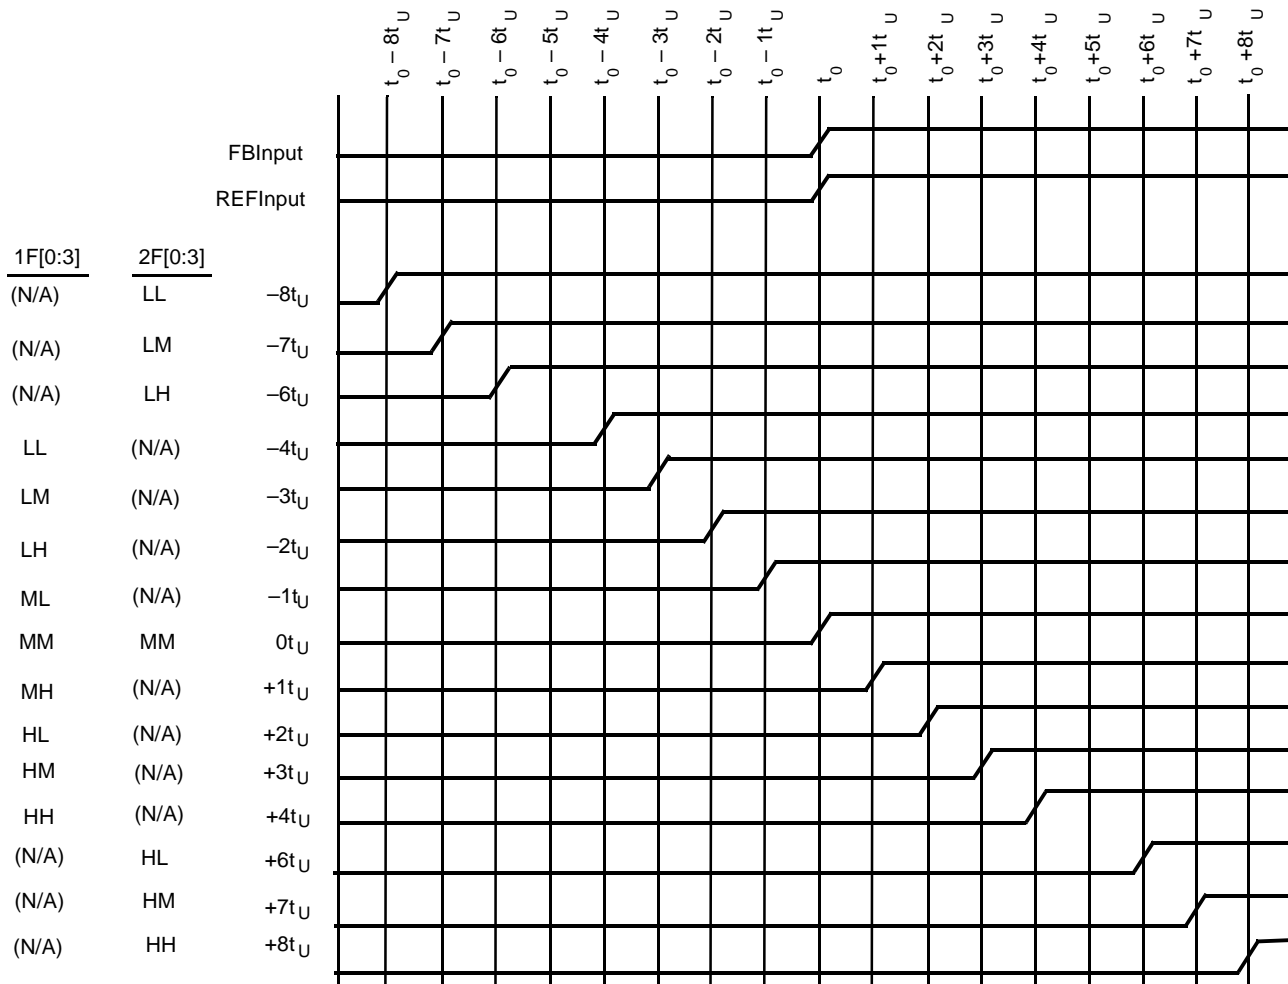

Figure 1. Typical Outputs with FB Connected to a Zero-Skew Output[3]
*Figure 1* illustrates the timing relationship of programmable skew outputs. All times are measured with respect to REF with the output used for feedback programmed with 0 $t_U$  skew. The PLL naturally aligns the rising edge of the FB input and REF input. If the output used for feedback is programmed to another skew position, then the whole  $t_U$  matrix will shift with respect to REF. For example, if the output used for feedback is programmed to shift -4 $t_U$ , then the whole matrix is shifted forward in time by 4 $t_U$ . Thus an output programmed with 4 $t_U$  of skew will effectively be skewed 8 $t_U$  with respect to REF.